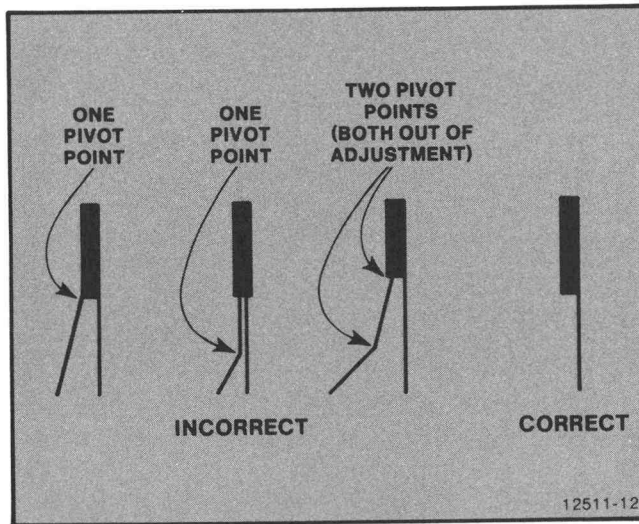

Figure 4-12. Frequency Compensation Pattern.
2. **Adjust** R51 and R150 on the Deflection Amplifier board so that only one line can be seen. See Figure 4-12.
4. Adjust R69 and R167 on the Deflection Amplifier board so that only one line can be seen. Again refer to Figure 4-12.